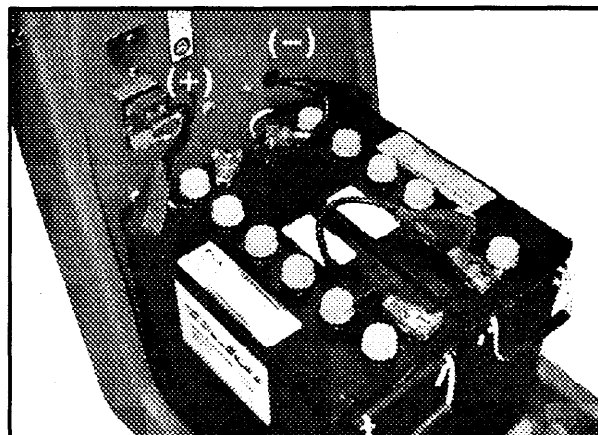

Fig. 2.
3. Carefully install batteries into compartment and arrange battery posts as shown. (Fig. 2)
4. Connect cables to battery posts in numerical order as labeled. RED TO POSITIVE (+) & BLACK TO NEGATIVE (-). (Fig. 2)